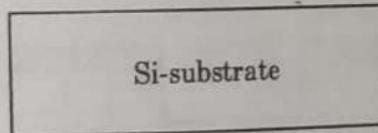

Fig. 5.23.1. ~
- Initially, we take a piece of *p*-type Si-substrate as shown in Fig. 5.23.1.